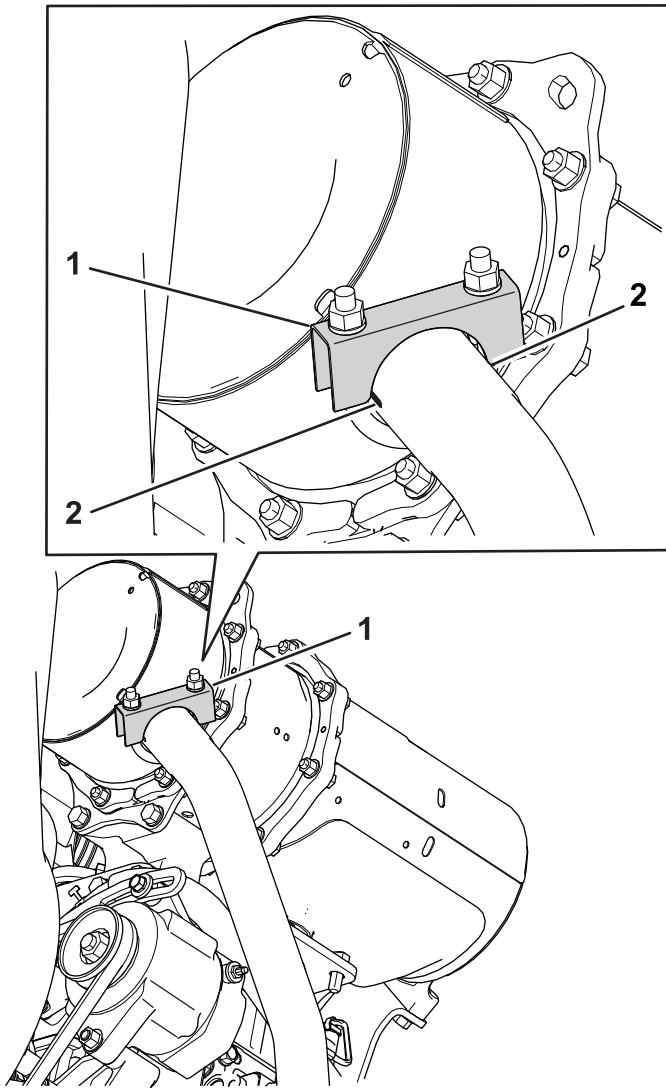

Figure 4
- Align the clamp flush with the end of the exhaust pipe and rotate it as shown in Figure 4.
Note: Ensure the clamping surface is parallel to the slots in the pipe (Figure 4).